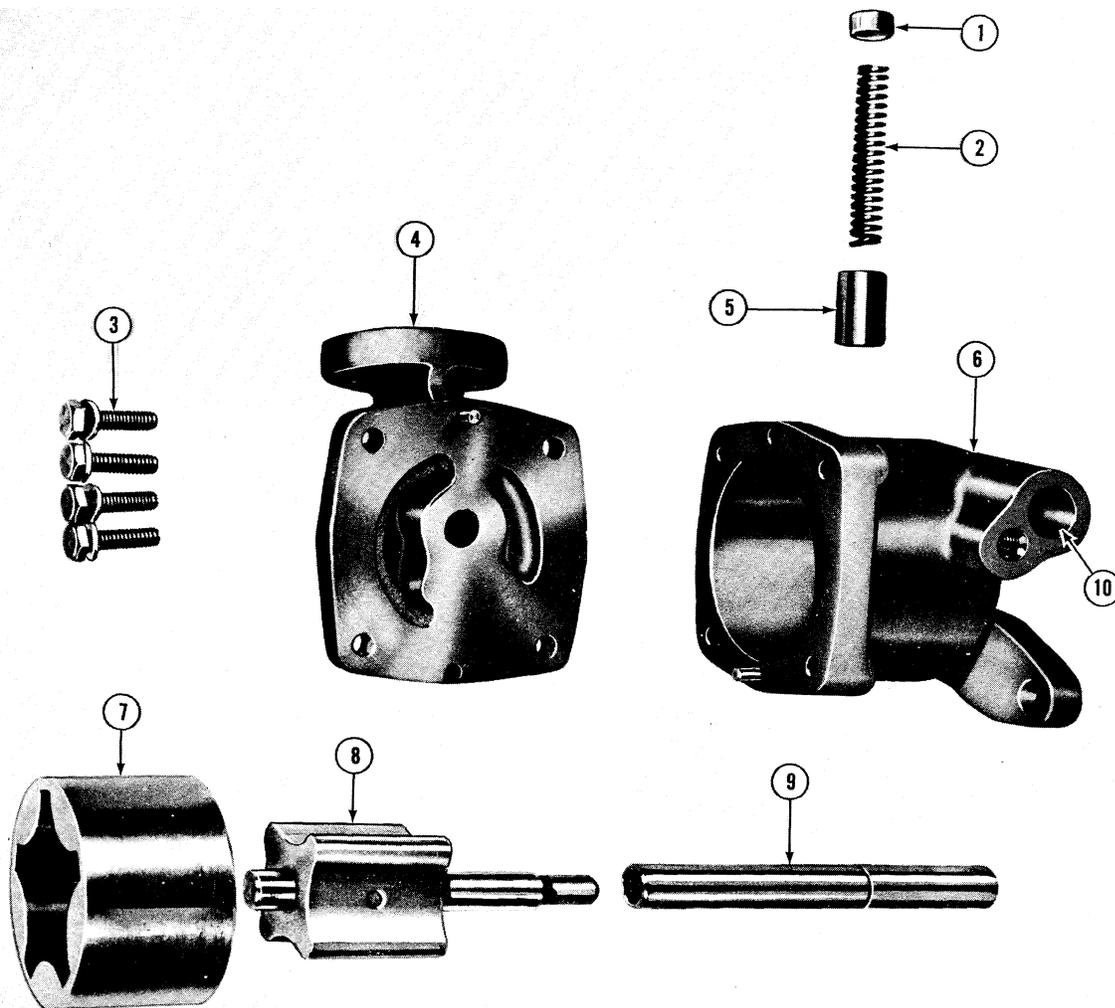

Figure 19
1. OIL PUMP: Remove the cover, outer rotor, inner rotor and shaft, Figure 19.
2. Remove the relief valve and spring by removing the plug with a self-tapping screw, Figure 19.
1. **OIL PUMP:** Oil all parts and assemble the components, Figure 19. The rotor and shaft assembly with the outer rotor are serviced as an assembly. After assembly, prime the pump in clean engine oil.